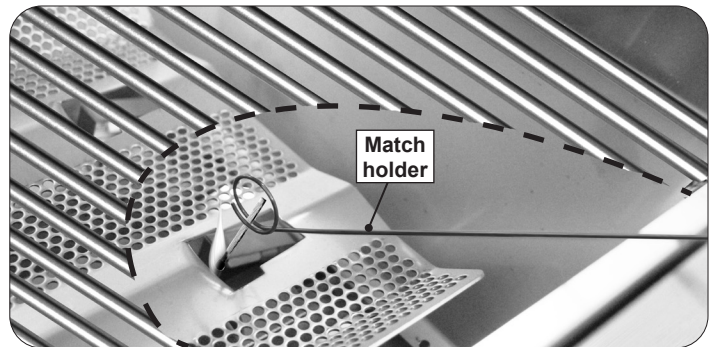

Fig. 31-2 Manual lighting
2. Insert either a burning long-barrel butane lighter, a burning long-stem match, or a burning match held by the included wire extension match holder through the cooking grid opening and flavor grid to the top of the burner (Fig. 31-2).
4. If the burner does not light within five (5) seconds of turning the control knob, **immediately depress the knob and turn the valve to OFF**. **WAIT FIVE (5) MINUTES** before repeating steps 2 through 4 of the MANUAL LIGHTING instructions.